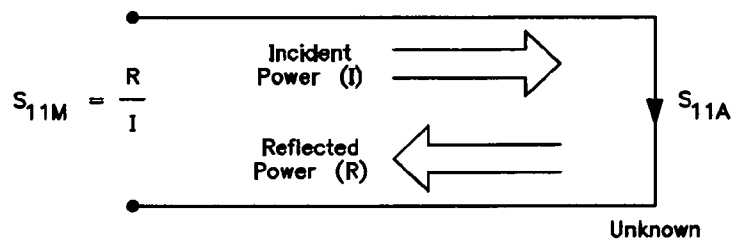

Figure B-2
First consider a measurement of the complex reflection coefficient of an unknown one-port device. The complex reflection coefficient,  $S_{11}$ , is measured by first separating the incident signal (I) from the reflected signal (R), then taking the ratio of the two values (Figure B-2). No matter how carefully the device is measured, the measured value  $S_{11M}$  will differ from the actual value  $S_{11A}$ , because of the presence of systematic errors.